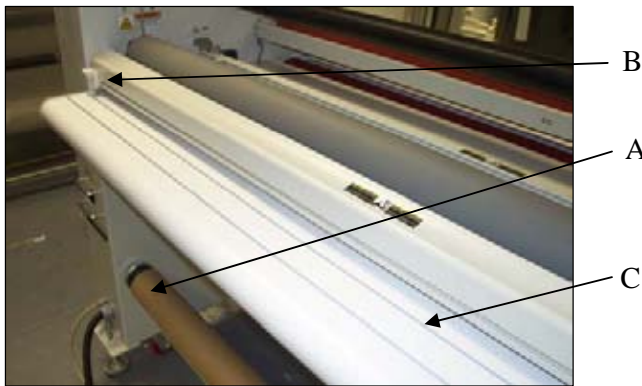

Figure 3
1. **Straight Slitter:** Used for slitting the media after lamination -- Rear Table. (Fig. 3 – Item B)
**Rewind Take up:** (Fig. 3 – Item A)